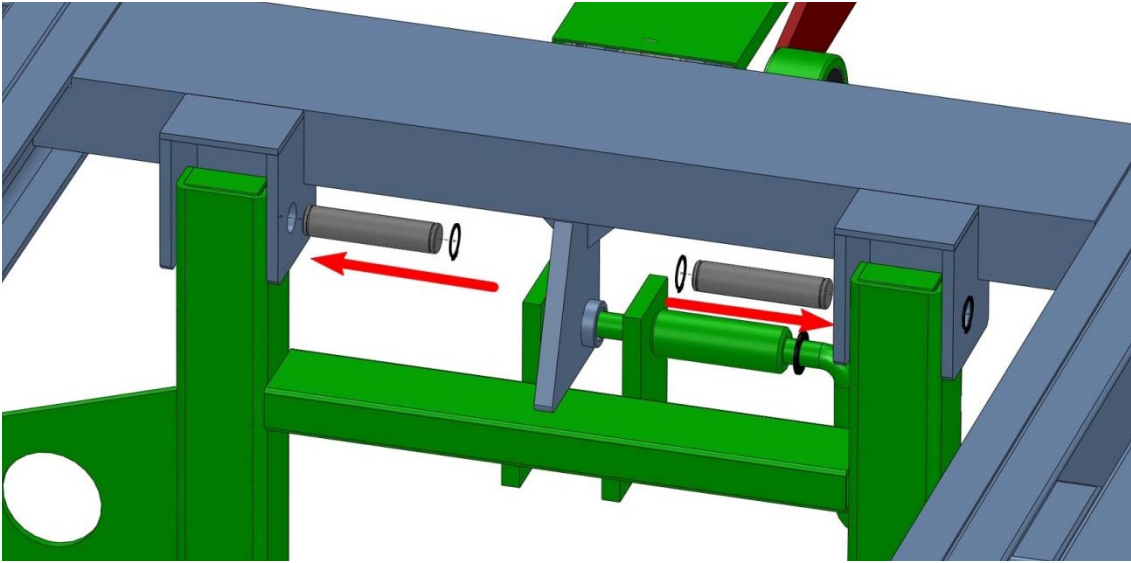

Figure 6.3
6.1.3 Movable support installation: Install the Movable support with two axes, remember to install the snap spring. See figure 6.3